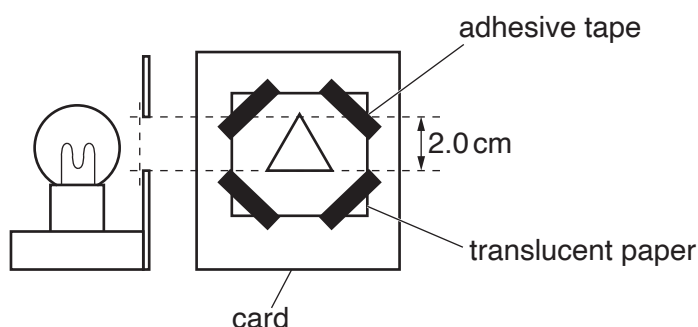

Fig. 3.1
- (iii) Illuminated object consisting of a rigid card with a triangular hole of height 2.0 cm (see Fig. 3.1). The hole is to be covered with thin translucent paper (e.g. tracing paper) secured with adhesive tape. See note 1.